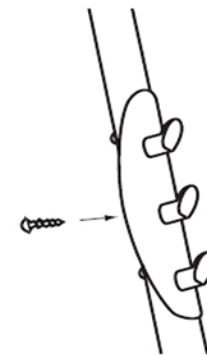

Figure 10
**11** Attach the provided **3-Hook Towel Holder (I)** on the preferred side of your cover lift by simply snapping it into place and inserting the middle **Self-Tapping Screw (L)**. See *Figure 10*.